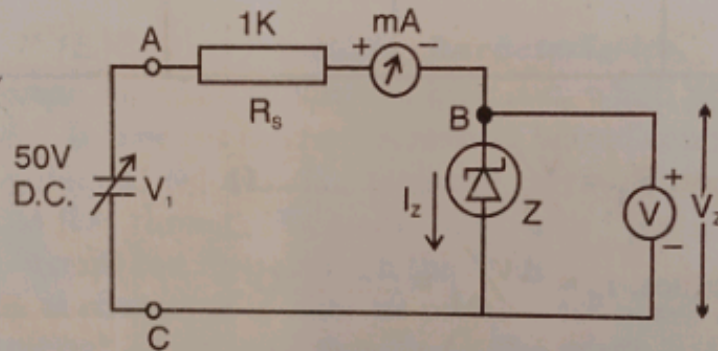

Fig. P-14
Brief Theory : Circuit for use of zener diode as a voltage regulator is shown in fig. P-14. As a voltage regulator zener diode gives a constant D.C. output with variations in input voltage and/or load.
1. Connect the circuit as shown in fig P-14.